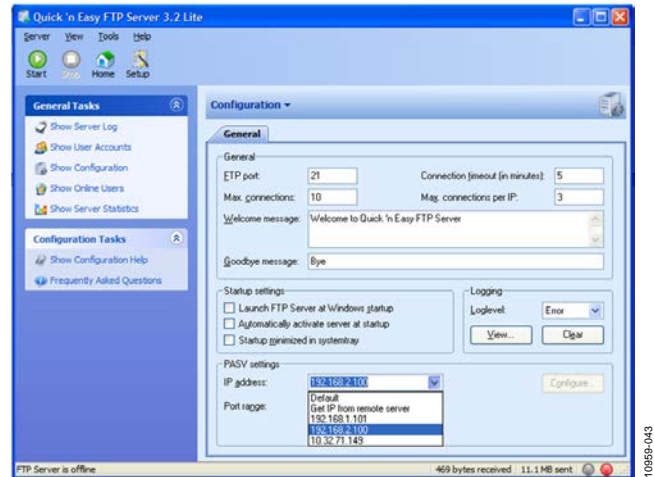

Figure 43. Update Firmware
2. Configure the application to connect to the correct IP address. From the **IP address** drop-down box in the **PASV Settings** section (see Figure 43), select the IP address of the adapter used to connect the board to the PC.